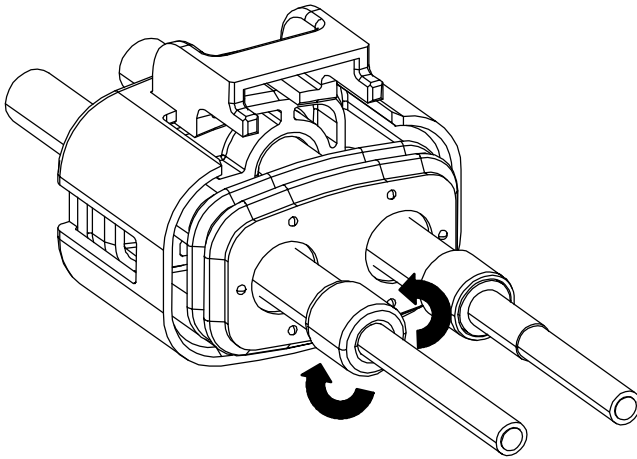

Figure 6
5. Fold the braided cable shield back over the inner ferrule, taking care to try to keep inner ferrule positioned such that its edge is flush with the stripped edge of the outer jacket as shown in Figure 6.